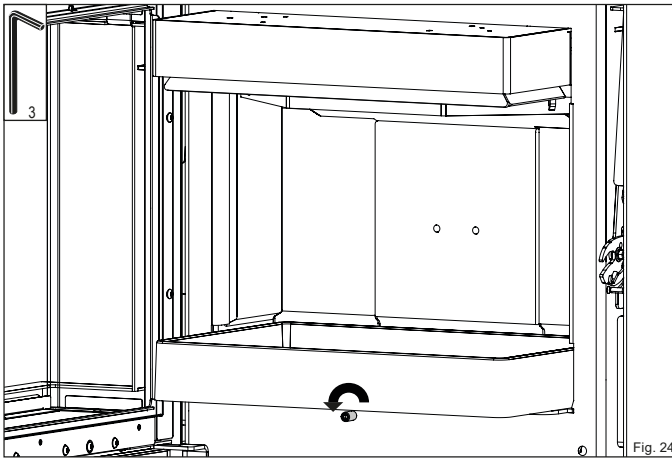

Fig. 24
- ▶ Loosen the set screw (Fig. 24).